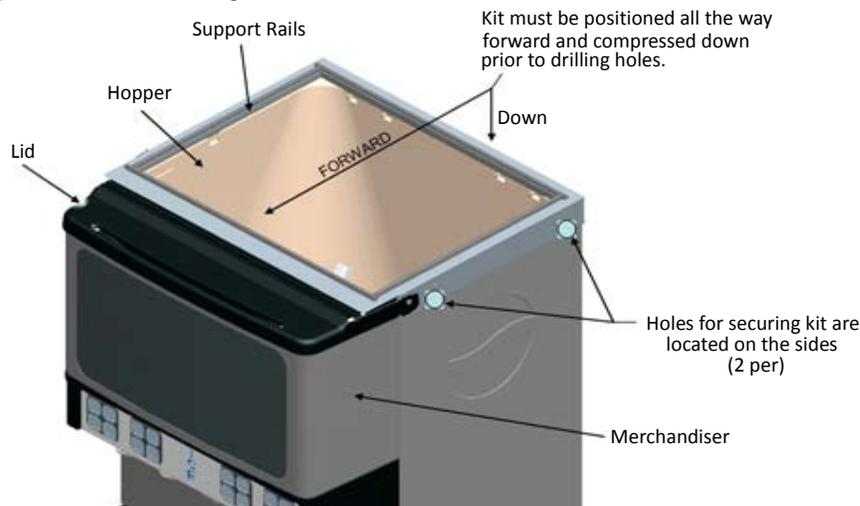

Figure 3.
4. Using the four holes in the adapter cover as templates, drill 9/64" (.140" Dia.) holes in the sides of the dispenser (2 holes per side). **USE EXTREME CAUTION NOT TO DRILL INTO ANY OTHER COMPONENTS.** Maximum drill depth from the face of the kit should not exceed 3/8" (just enough to go through the material being drilled). Remember, the kit should be all the way forward and compressed down before drilling the holes. Otherwise, undesirable gaps may result (lid to merchandiser) and the internal latch feature for the lid may not function properly. After holes are drilled, secure the kit to the machine using the screws provided, refer to Figure 3.